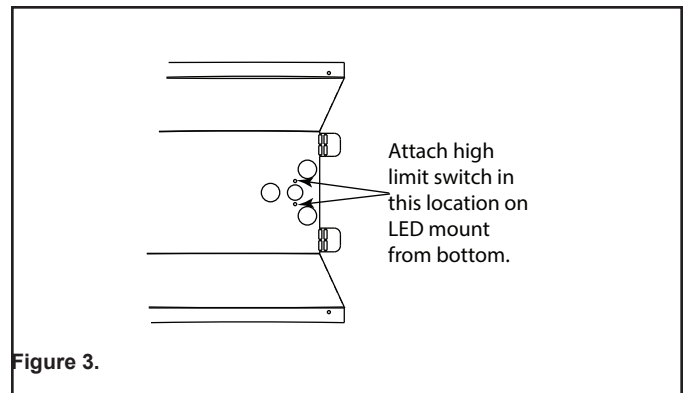

Figure 3.
5. Attach limit switch with supplied screws to light tray from bottom. See Figure 3.